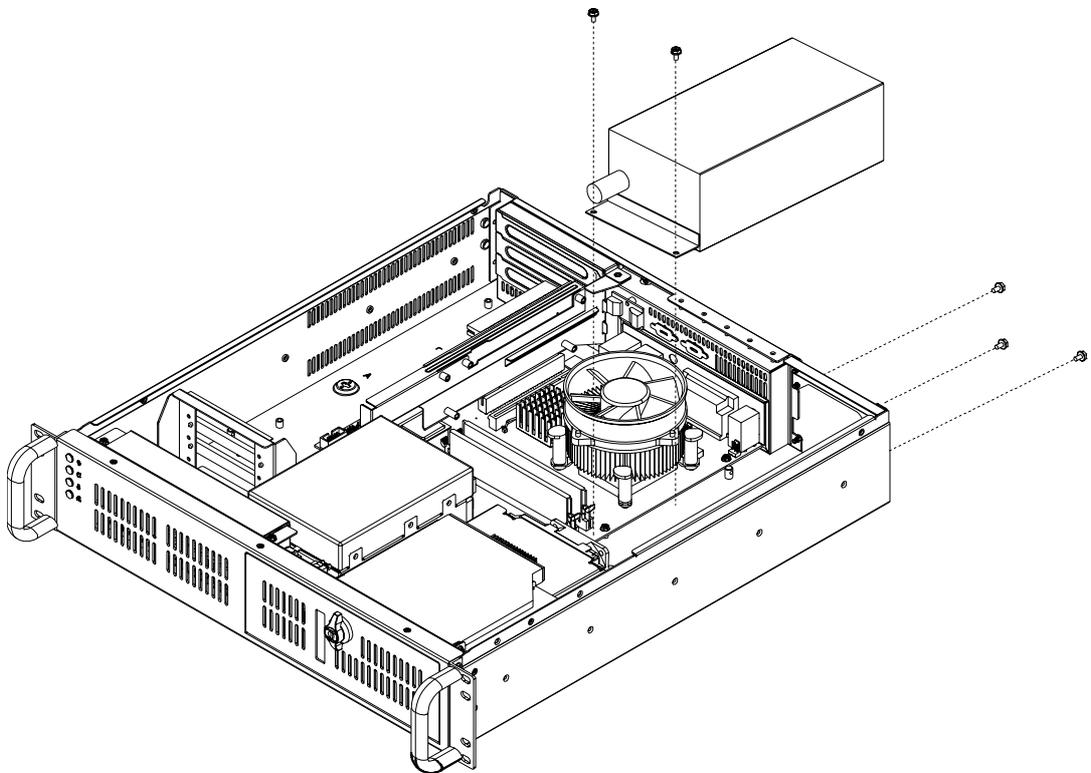

Figure 3.9 Replacing the power supply
4. Loosen the three screws on the rear plate and the two screws on the power supply bracket and then gently take it out. (see Figure 3.9)